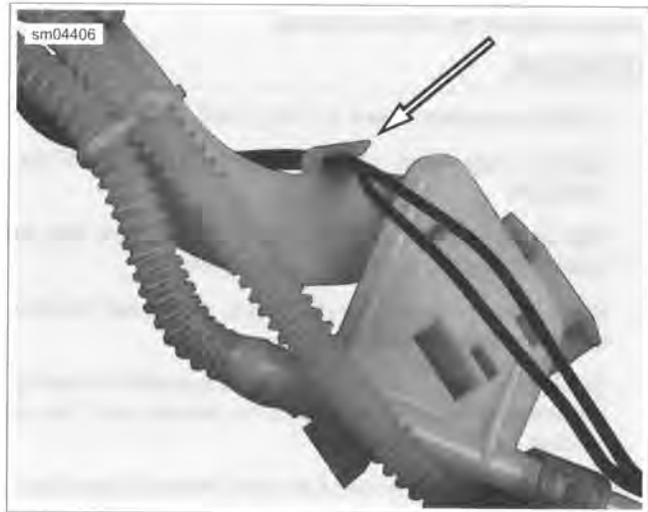

Figure 4-40. Capture Wires in Molded Clip
3. Route wire harness through molded clip at front of fuel pump bracket. See Figure 4-40.